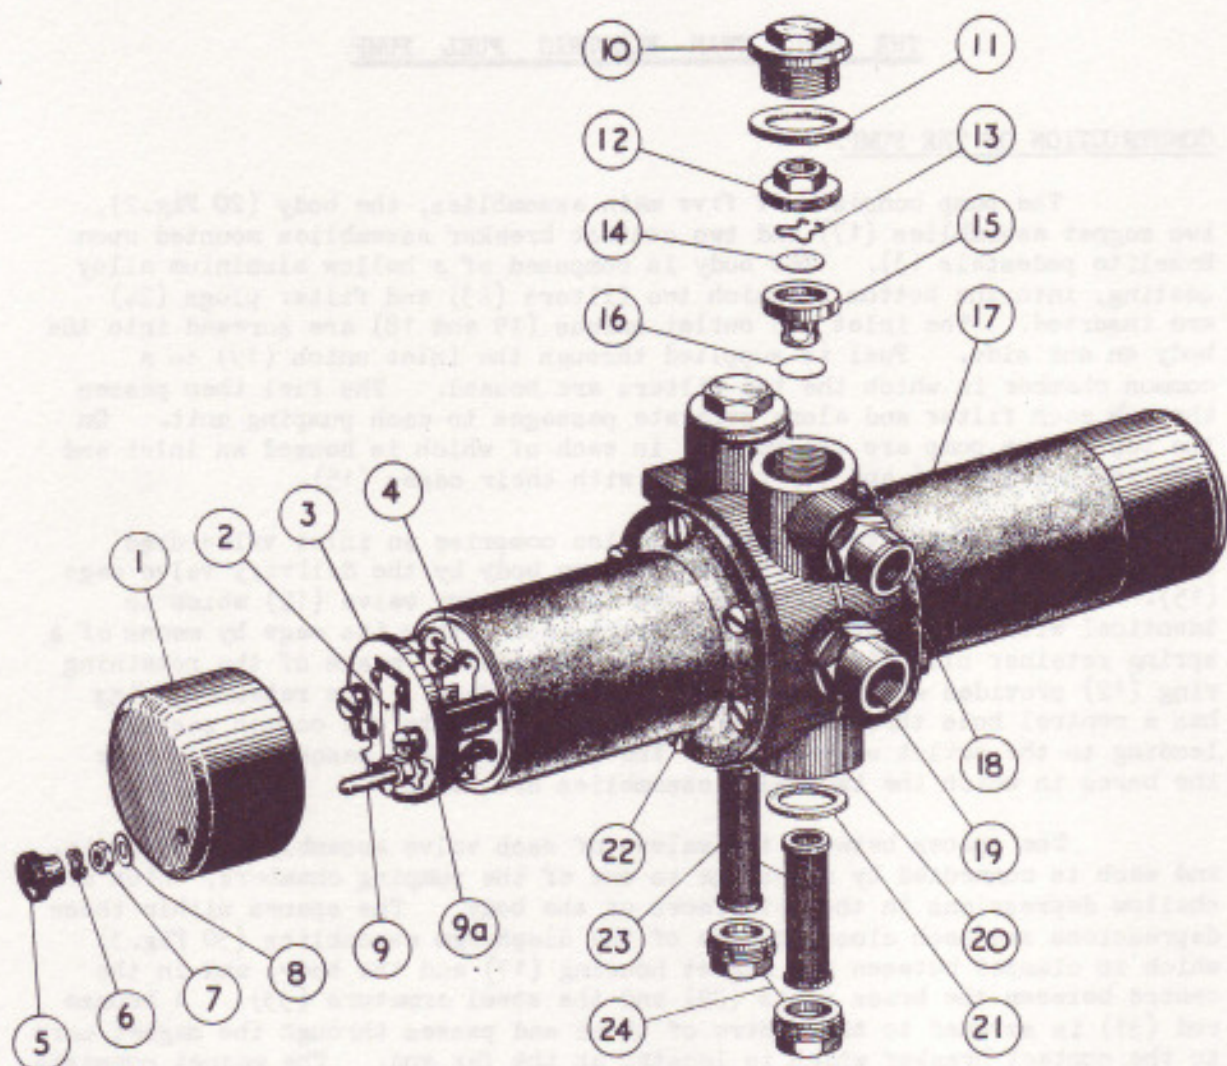

FIG. 2. S. U. ELECTRIC FUEL PUMP WITH ONE END COVER REMOVED. (WATERPROOF GAITERS NOT SHOWN).
The pump consists of five main assemblies, the body (20 Fig. 2), two magnet assemblies (17) and two contact breaker assemblies mounted upon bakelite pedestals (3). The body is composed of a hollow aluminium alloy casting, into the bottom of which two filters (23) and filter plugs (24) are inserted. The inlet and outlet unions (19 and 18) are screwed into the body on one side. Fuel is supplied through the inlet union (19) to a common chamber in which the two filters are housed. The fuel then passes through each filter and along separate passages to each pumping unit. On the top of the pump are two bosses, in each of which is housed an inlet and a delivery valve (16 and 14) together with their cages (15).